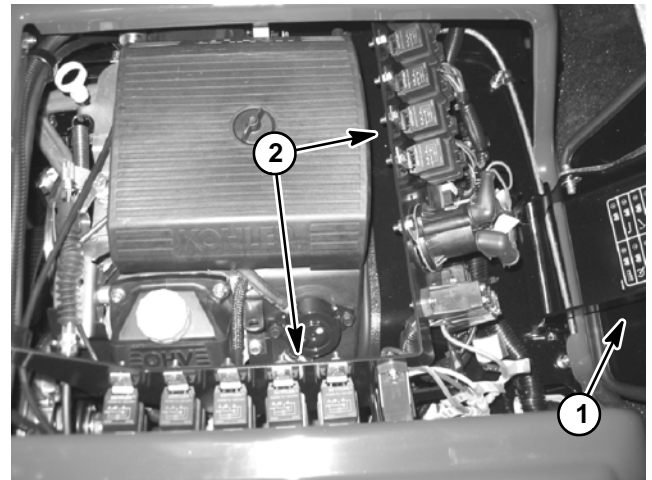

Figure 9
The start, neutral engine speed lock, spray pump clutch and boom actuator relays are used on both the Multi Pro 1200 and Multi Pro 1250. The Multi Pro 1250 uses an additional three (3) relays for the spray valve system. All of the relays are located under the operator seat (Fig. 9). The relays are all identical and can be identified by a tag at the relay wire harness connector.